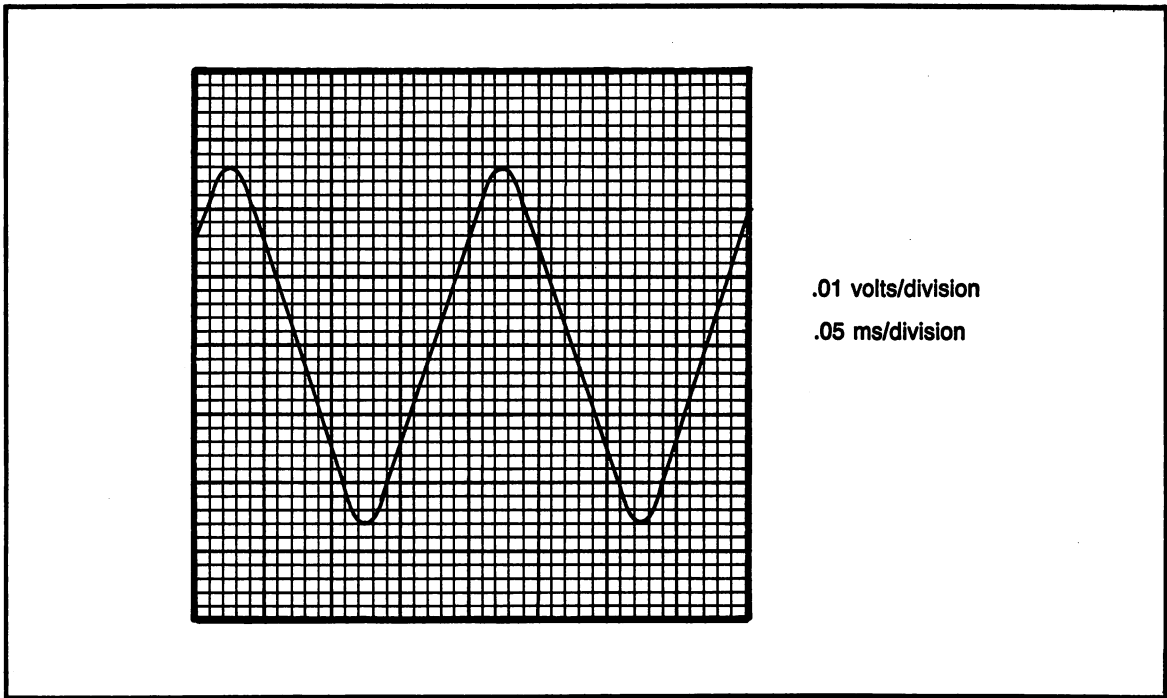

Fig. 11-21. Problem 37: .01 volts/division; .05 ms/division.
- (37) Figure 11-21; a) p-to-p voltage b) frequency